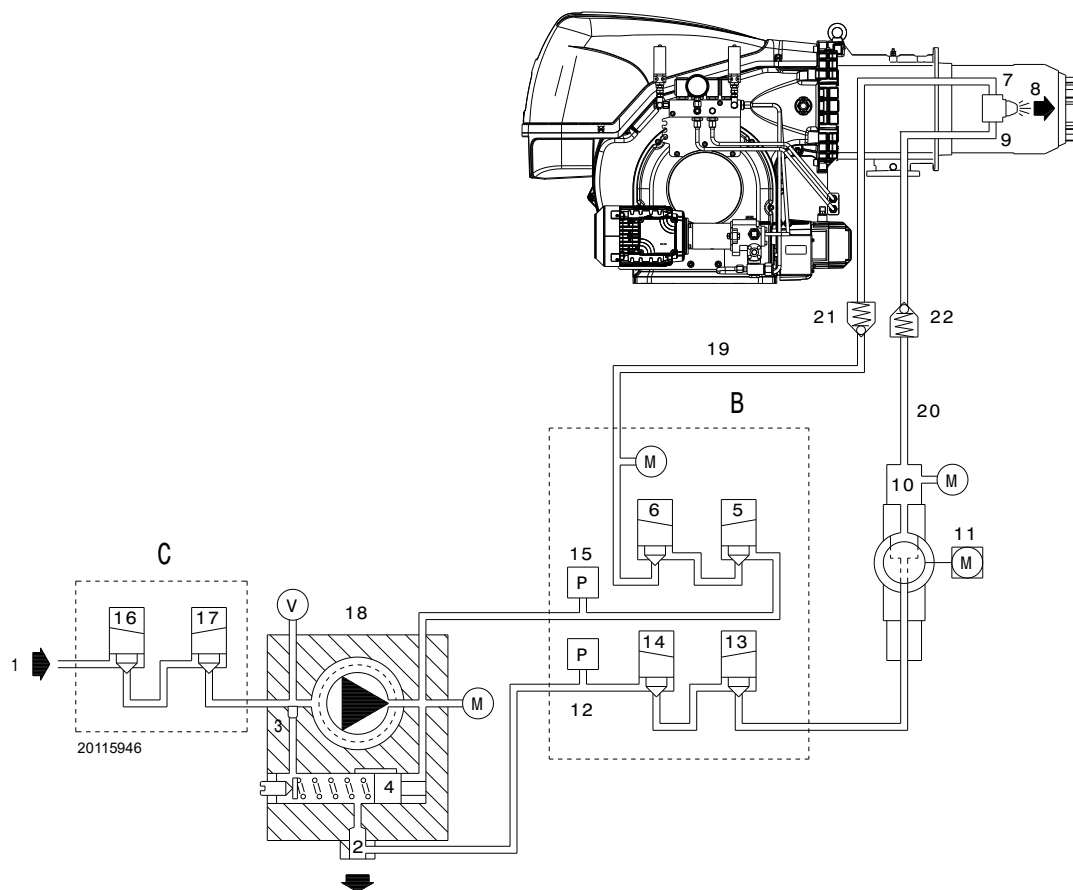

Fig. 42
- The pump 18)(Fig. 42) draws the fuel from the tank through the piping 1) and pumps it under pressure for delivery. The pump pressure governor 4) rises and the fuel returns to the tank through the piping 2). The screw 3) closes the by-pass heading towards suction and the de-energized solenoid valves 5) - 6) close the passage to the nozzle.
Key (Fig. 42)